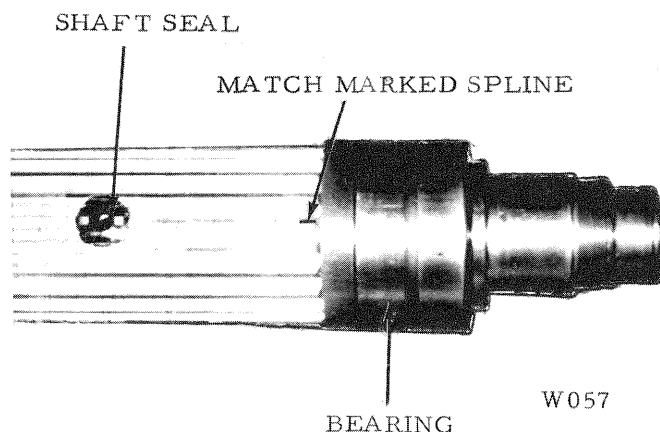

Figure 63
10. Coat the splines of either bevel gear shaft with lubriplate. Also coat top and sides of the power control bevel shaft seals and insert them in the seal recesses. Slide the clutch bearing (bearings) over the right end of the shaft. Fig. 63. Sling the shaft and lower it through the stacked parts.